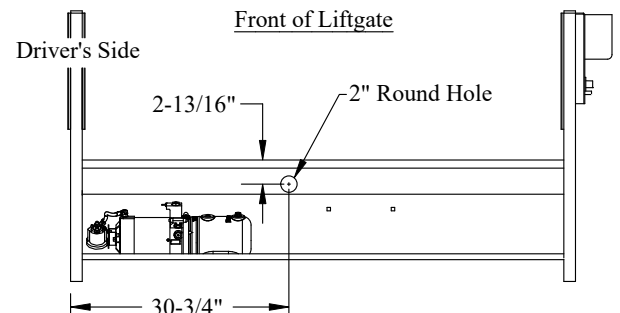

Figure 14: Spare tire access.
2. **Remove and Discard** the black plastic plug(s) from the mainframe at the location shown (Figure 14).
3. **Verify** spare tire access operation by inserting the spare tire crank rod through the access hole(s) (Figure 14).